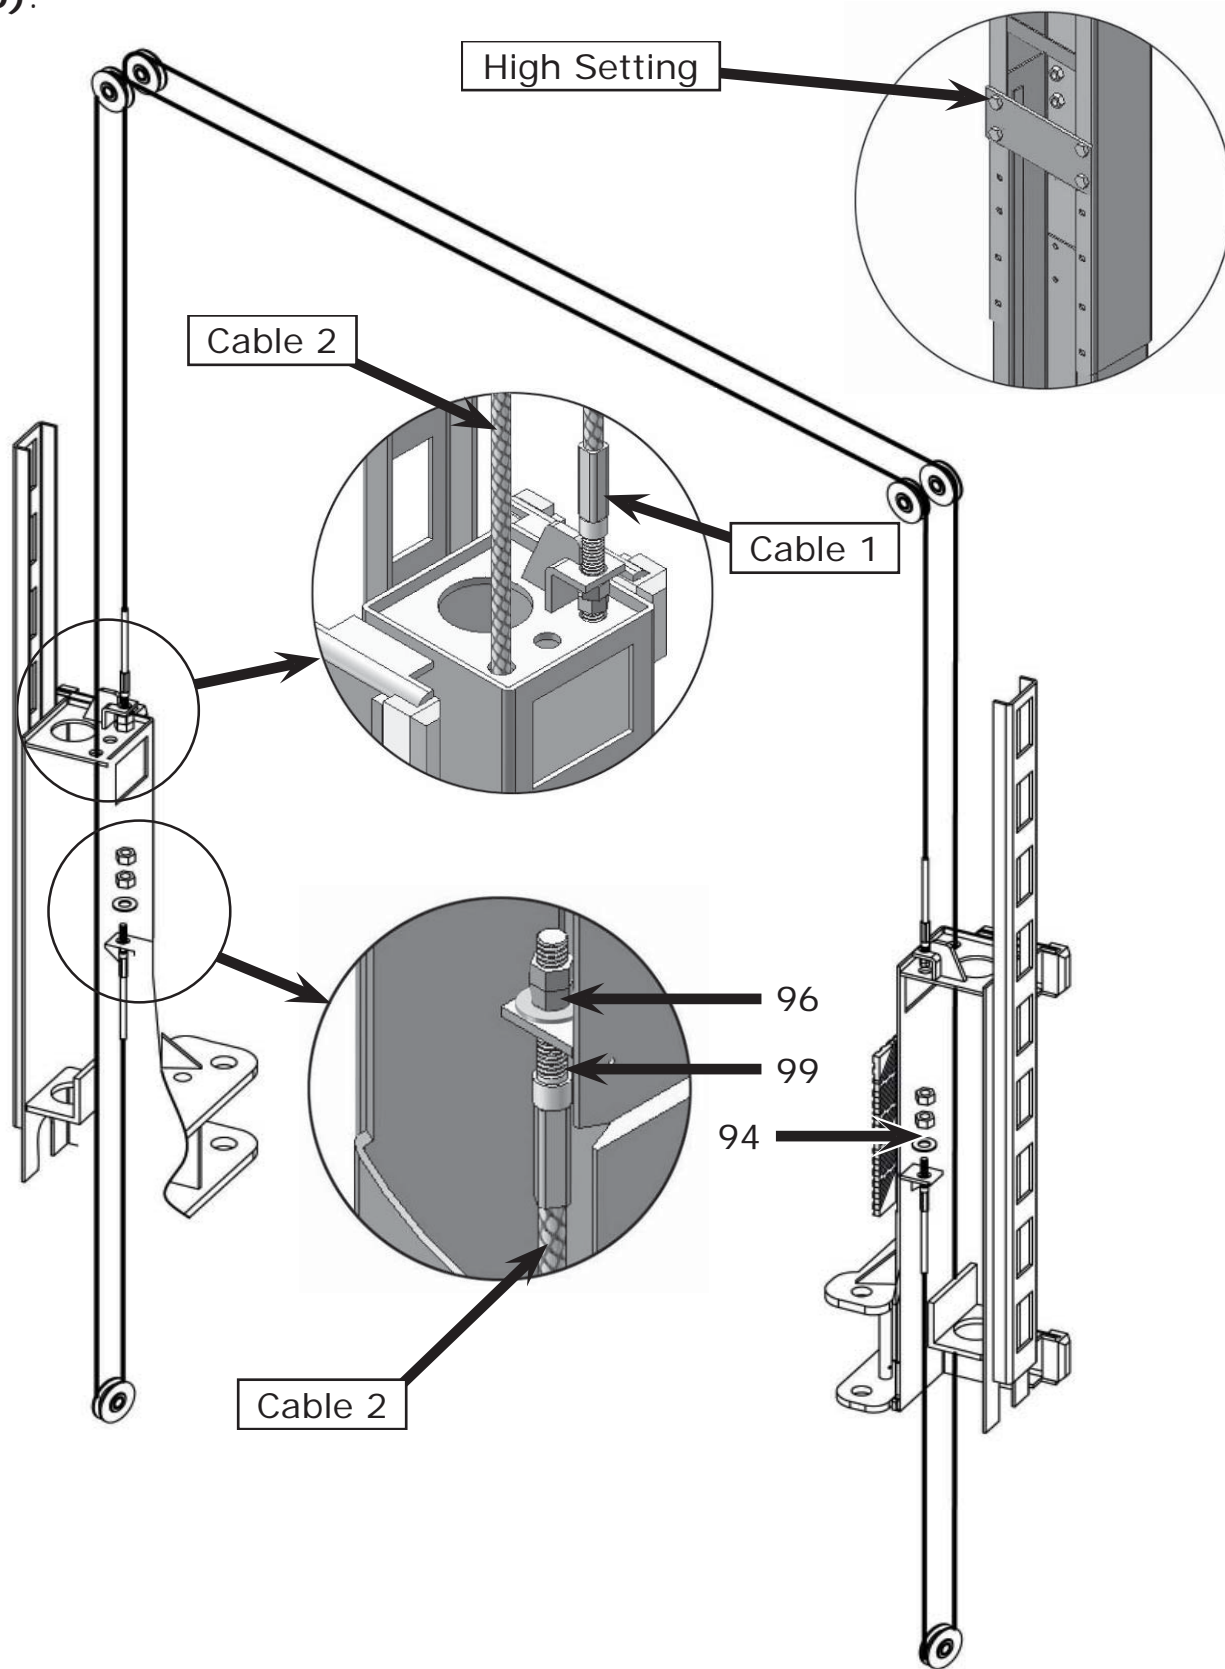

Fig. 30
3. **Special low setting cable connection**, suitable for ceiling height less than 4200mm (165 3/8"), for this setting use with the optional short cable (**See Fig. 30**).